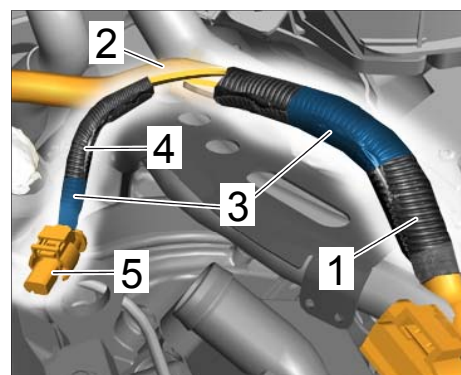

Figure 20
- 5.24 Re-fit sleeve $\Rightarrow$ *Figure 20 -item 1-* on the main wire harness $\Rightarrow$ *Figure 20 -item 2-* and wrap fabric tape $\Rightarrow$ *Figure 20 -item 3-* around it.
- 5.25 Re-fit sleeve $\Rightarrow$ *Figure 20 -item 4-* on the connector wires $\Rightarrow$ *Figure 20 -item 5-* and wrap fabric tape $\Rightarrow$ *Figure 20 -item 3-* around part of it.